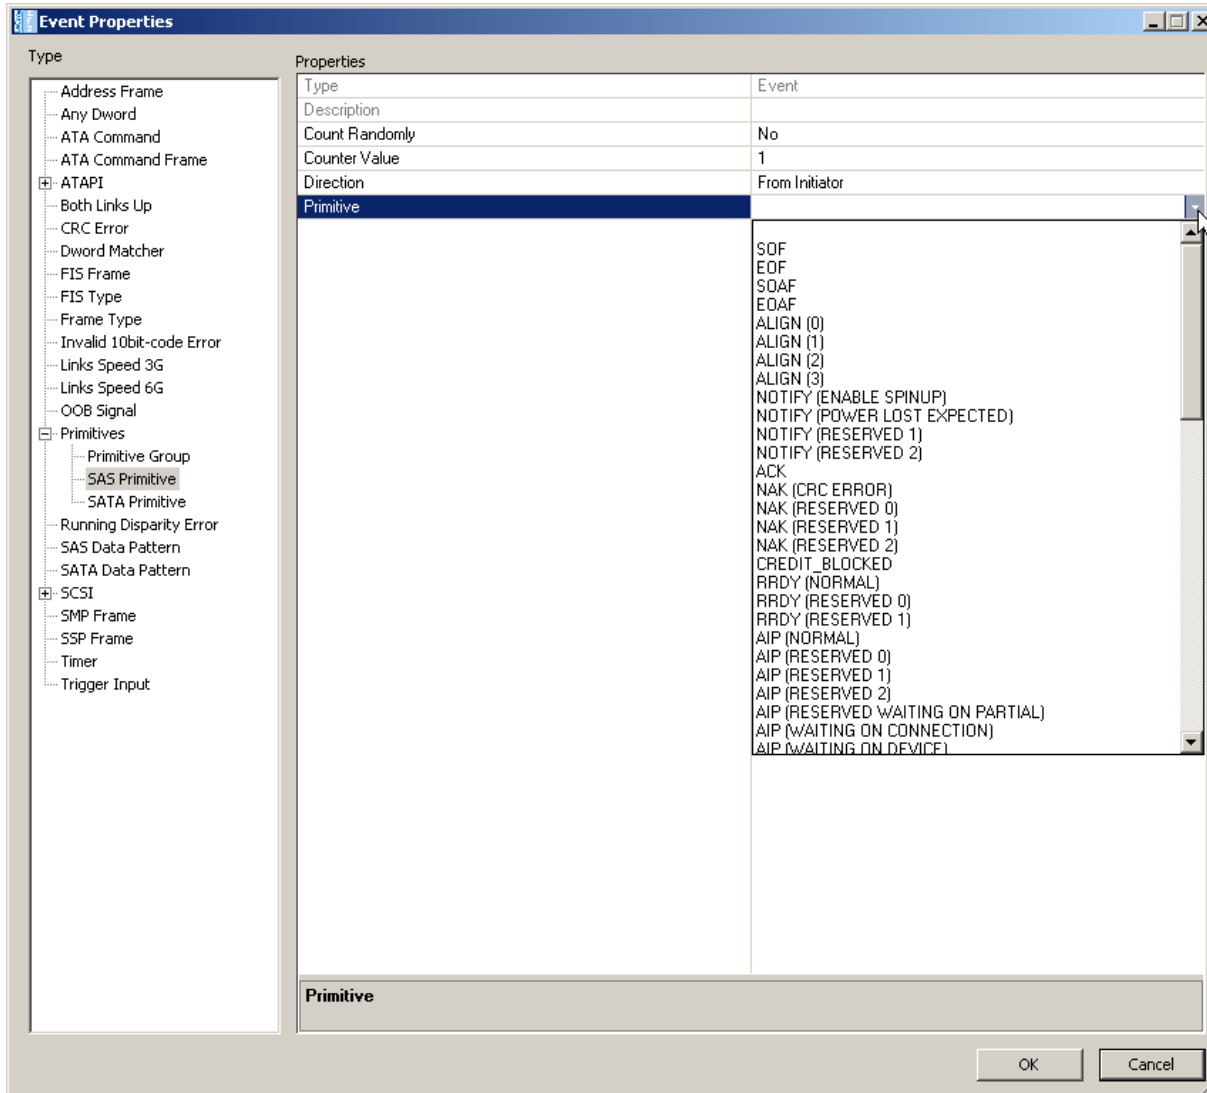

Figure 4.32: Example 1: Event Drop-Down List
7. Still in the middle column of the Event Properties dialog box, click **Primitive** to display a drop-down menu that lets you choose the type of primitive for which to substitute for RRDY (Normal) (see Figure 4.32 on page 321). Choose **ERROR**.